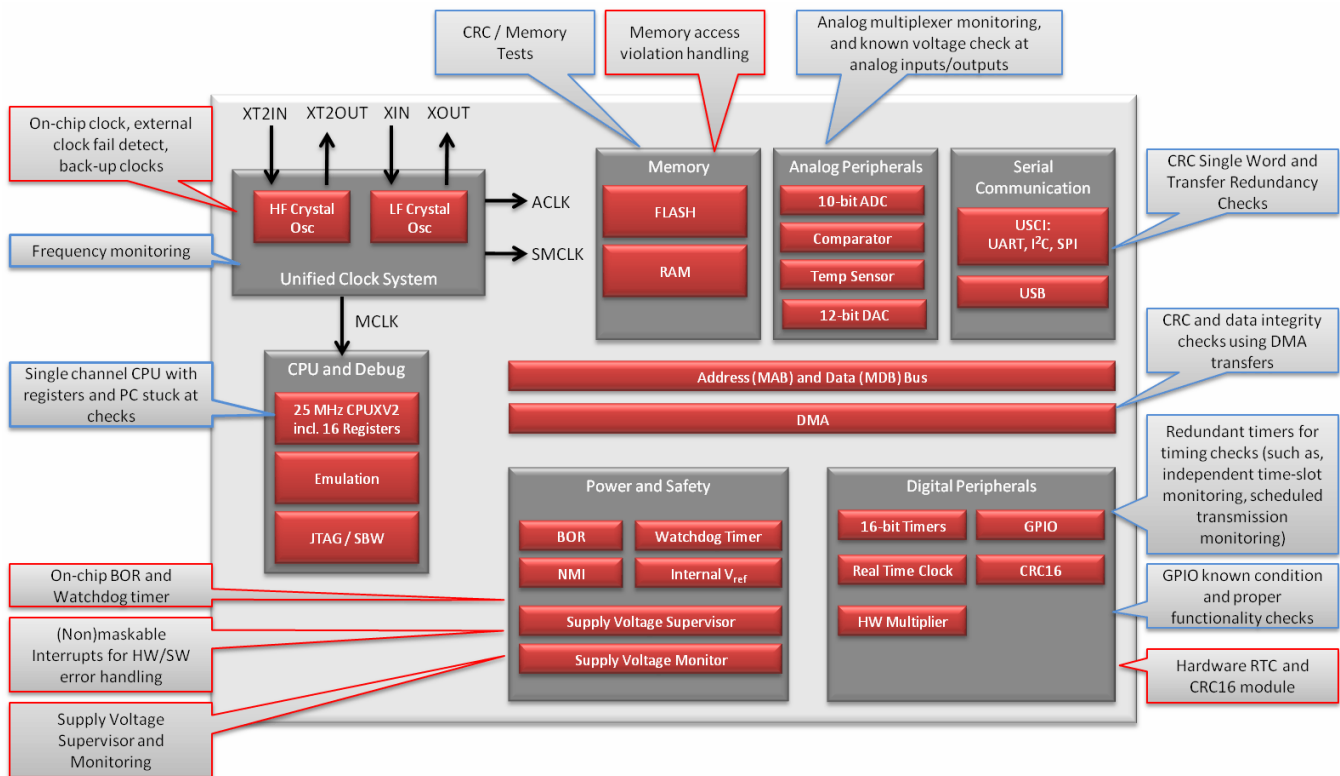

Figure 6. MSP430 F5xx High-Level Block Diagram with Hardware and Software Functional Safety Features
The MSP430 F5xx family of devices features an extended 16-bit RISC CPUXv2 with up to 1MB memory access. This family of devices offer large memory footprints and has flash and SRAM memory technologies, which are used as on-chip nonvolatile and volatile memories, respectively. The architecture, combined with five low-power modes, is optimized to achieve ultra-low-power operation. It can operate up to 25 MHz and has on-chip digitally controlled oscillator (DCO) to enable fast wake-ups from low-power modes. Integrated peripherals include high precision analog modules such as 10-bit or 12-bit SAR ADC, analog comparator, and 12-bit DAC and advanced digital modules such as a hardware multiplier, 16-bit timers, an internal DMA, GPIOs, serial communication modules (which support I²C, SPI, UART, IrDA), a real-time clock, and others. Additionally, some MSP430 F5xx devices have advanced peripherals such as integrated USB and PHY that support USB 2.0, high-resolution timer (Timer_D) that enables up to 4-ns resolution, encryption modules, and radio frequency (RF) connectivity. **Figure 6** shows the F5xx high-level block diagram with various functional safety features. These functional safety features have been categorized in functional safety features implemented in hardware (shown in the red callout blocks) and functional safety features enabled by MSP430 STL APIs (shown in the blue callout blocks).